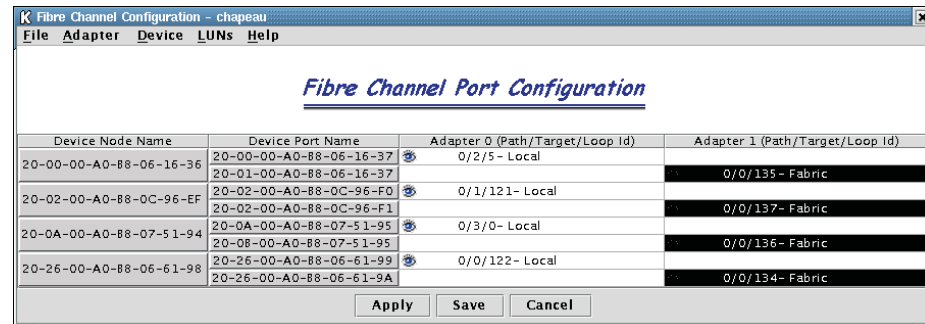

Figure 150. Fibre Channel Port Configuration window
5. Select CONFIGURE. You will then be presented with the Fibre Channel Port Configuration dialog box (see Figure 150).